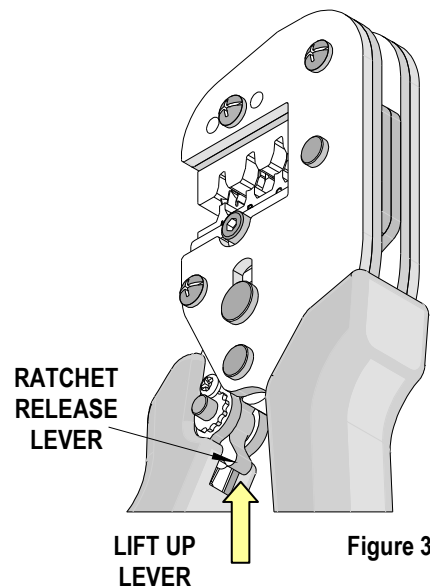

Figure 3
6. While holding the wire in place, slowly close the handles of the tool. If excessive resistance is felt, there may be a jam. If this occurs, stop closing the tool and release the anti-backup ratchet by lifting up the lever near the top of the moving handle. See figure 3.
If the tool ever becomes jammed in a partially closed position, **DO NOT** force the handles open or closed. The tool will open by lifting the ratchet release lever. See Figure 3.